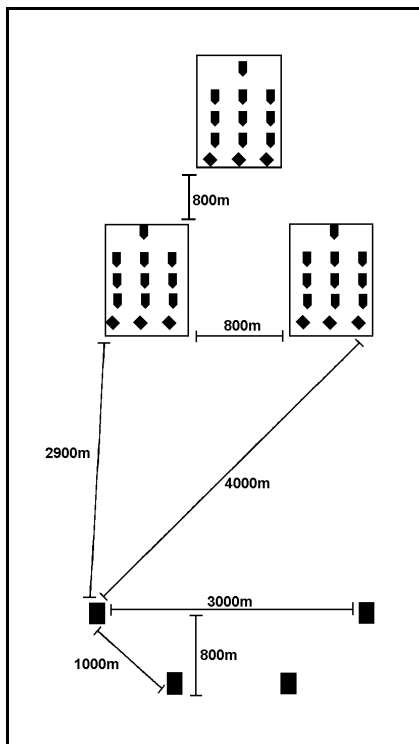

Fig. 1
- We want to spread out our platoon as far as possible so that the flank tanks begin engagements four kilometers from the lead, flank vehicle of the far, opposite MRC. (See Figure 1.)
Looking at Figure 1, several factors become obvious. First, the MRB is deployed with two MRC's forward and one back. There are 800 meters between the inside flanks of the lead MRCs and the same distance from the rear of those MRCs to the front of the trail one (per above assumptions).